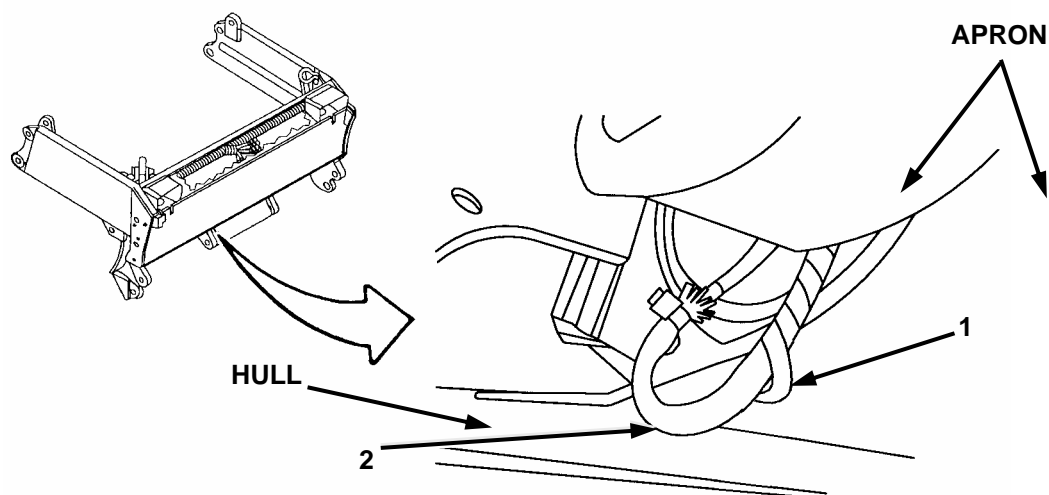

Figure 2-35. Apron Mercury Switch Cable.
- m. Install spiral wrap HT 2027 (Figure 2-35, 1) on apron mercury switch cable (2). Cut spiral wrap to fit.